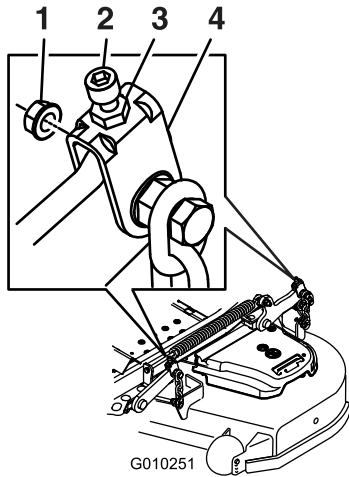

Figure 88
- If needed, loosen the whizlock nut on the side of the yoke and the jam nut on top. Fine tune the screw adjuster by turning it to get 3 inch (7.6 mm) height (see Figure 88).
- Fine tune the screw adjuster by turning it to get 3-1/4 inches (8.3 mm) height (Figure 88).